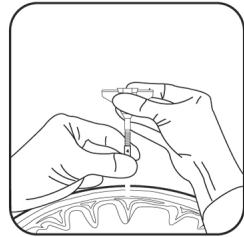

Figure 3: Select Bolt Stop size and slide onto bolt of the Bolt Assembly.
- ⇒ Slide the Bolt Stop onto the Bolt Assembly with the blue surface facing up. (Fig.3).